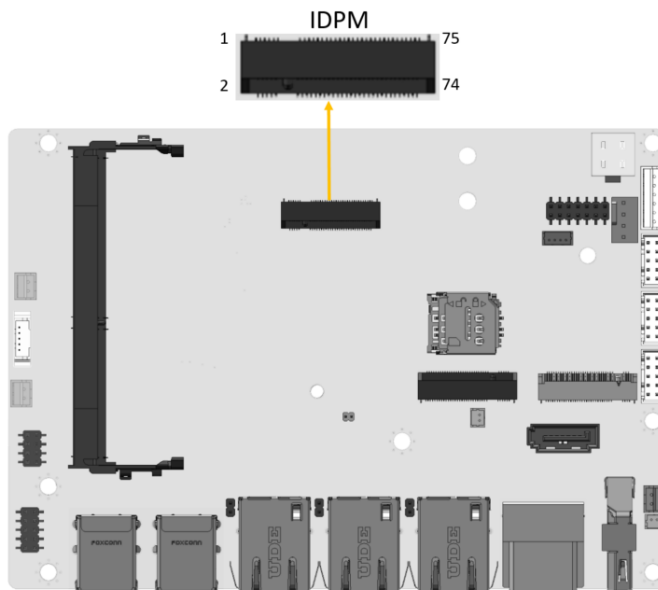

Figure 3-8: iDPM Connector Location
- CN Location:** See **Figure 3-8**